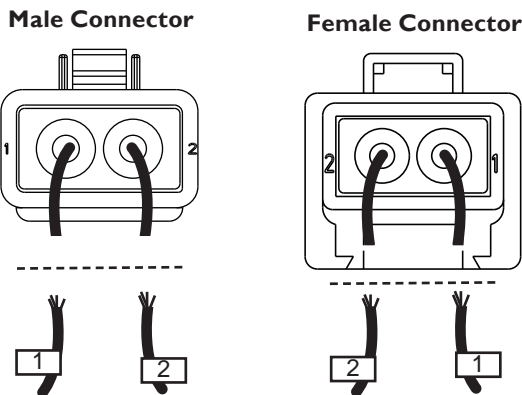

Figure 2 — Clipping Off Old Connector
2. Cut the newly labeled field coil leads at both connectors. Strip 1/4 inch of insulation from labeled ends to make the new connections. See Figure 2.